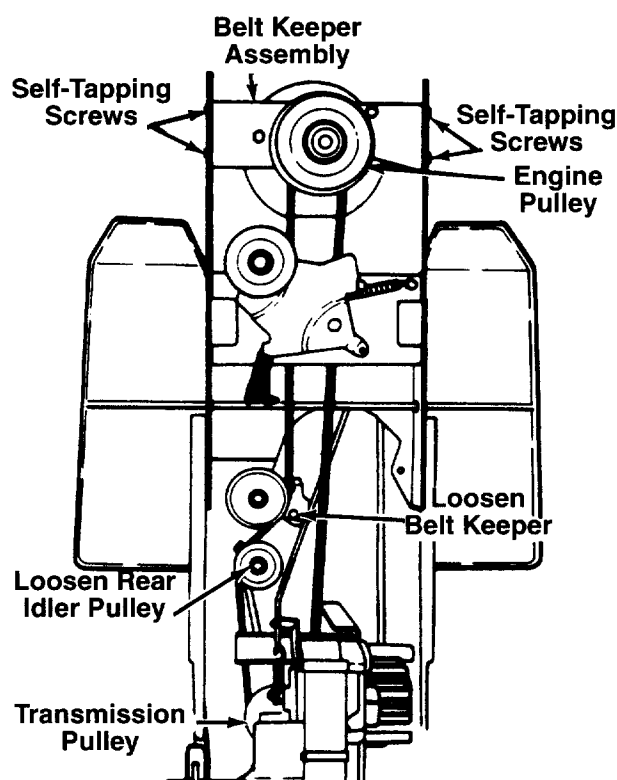

FIGURE 24.
## DRIVE BELT (See figure 24)
4. Remove the four self-tapping screws which hold the belt keeper assembly to the frame at the engine pulley. Push the belt keeper assembly forward, out of the way. See figure 24.